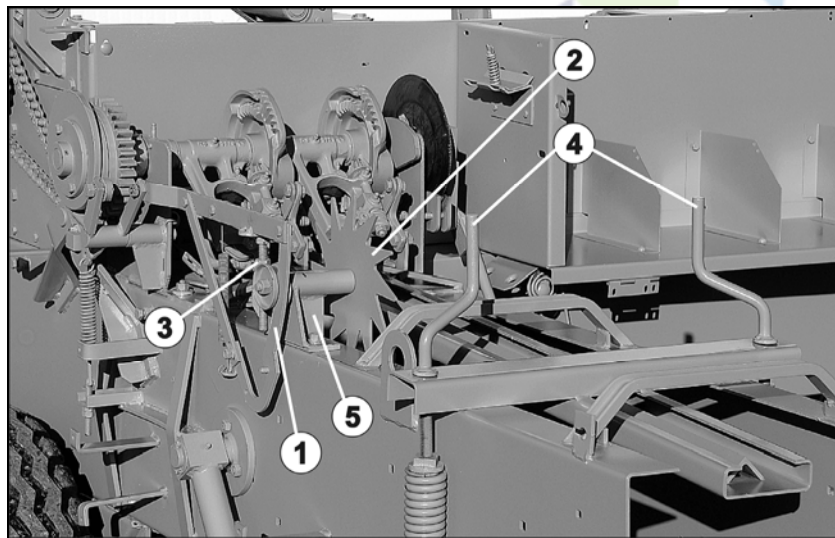
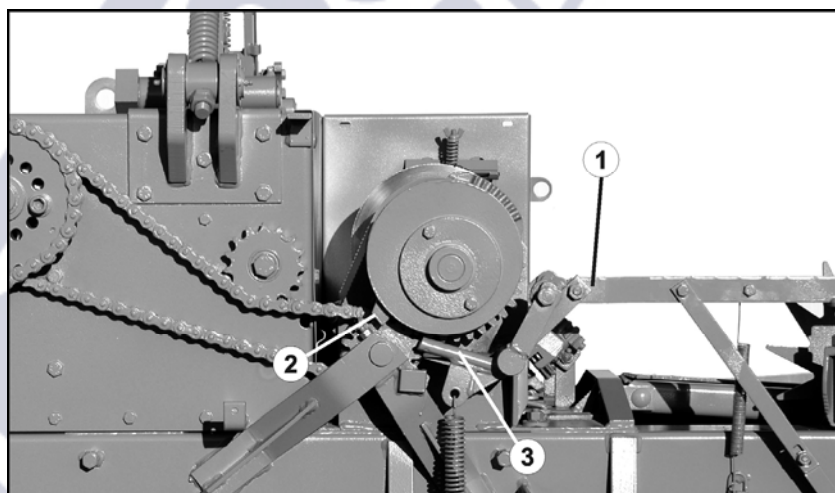
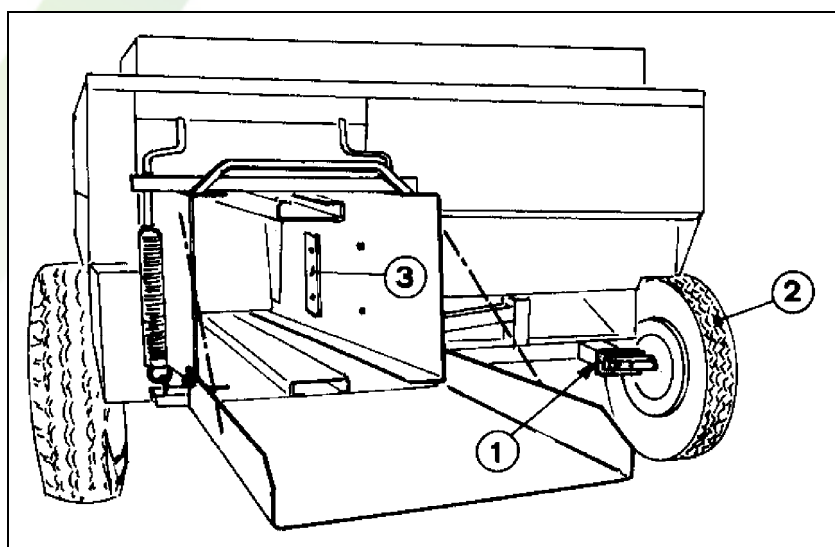
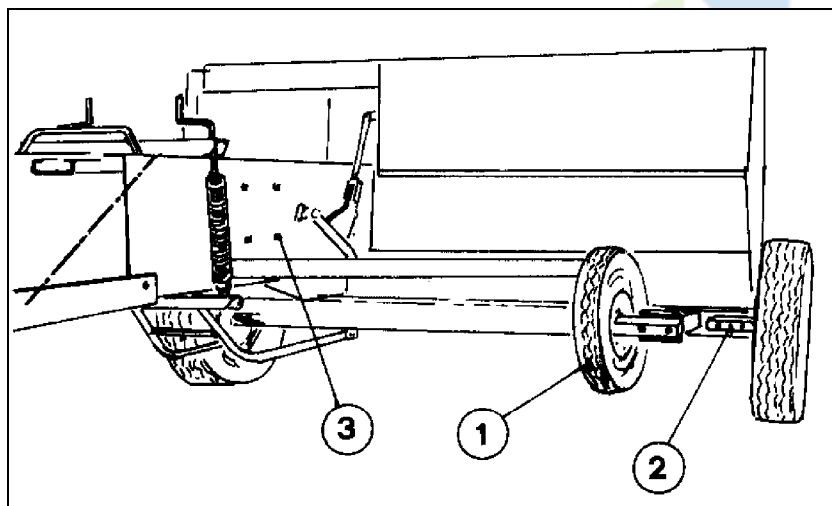

Fig. 4
Fig. 14
Fig. 25
Fig. 26
2. Variation of shape of arch lever (no. 1 Fig. 4). Its shape is perfect when all its bent side is located at the same distance from the rotation fulcrum (no. 1 Fig. 14). To avoid deformation, never try to set the arch lever to rest position, after having run the bale tie.
3. Wrong position of the metering wheel support (no. 5 Fig. 4). The position of the metering wheel must determine the position of the trip lever that can be seen at item no. 3 Fig. 14: which means that the trip lever top must be linked to the edge of the dogtrip (no. 2 Fig. 14). To change the position of the metering wheel support it's necessary to work on its own fixing bolts.
To increase the density straw-stop wedges are engaged (no. 3 Fig. 25) in the relevant holes of the compression channel (no. 3 Fig. 26). Density may be regulated acting on handles no. 4 Fig. 4.